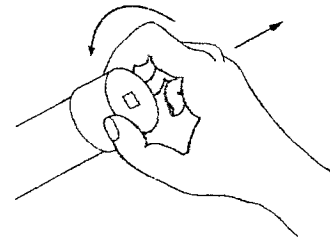

Fig. 7
E. Remove the drive coupling located at the top of the agitator assembly. This is accomplished by rotating the coupling counter-clockwise and lifting it off ( See Fig. 7).